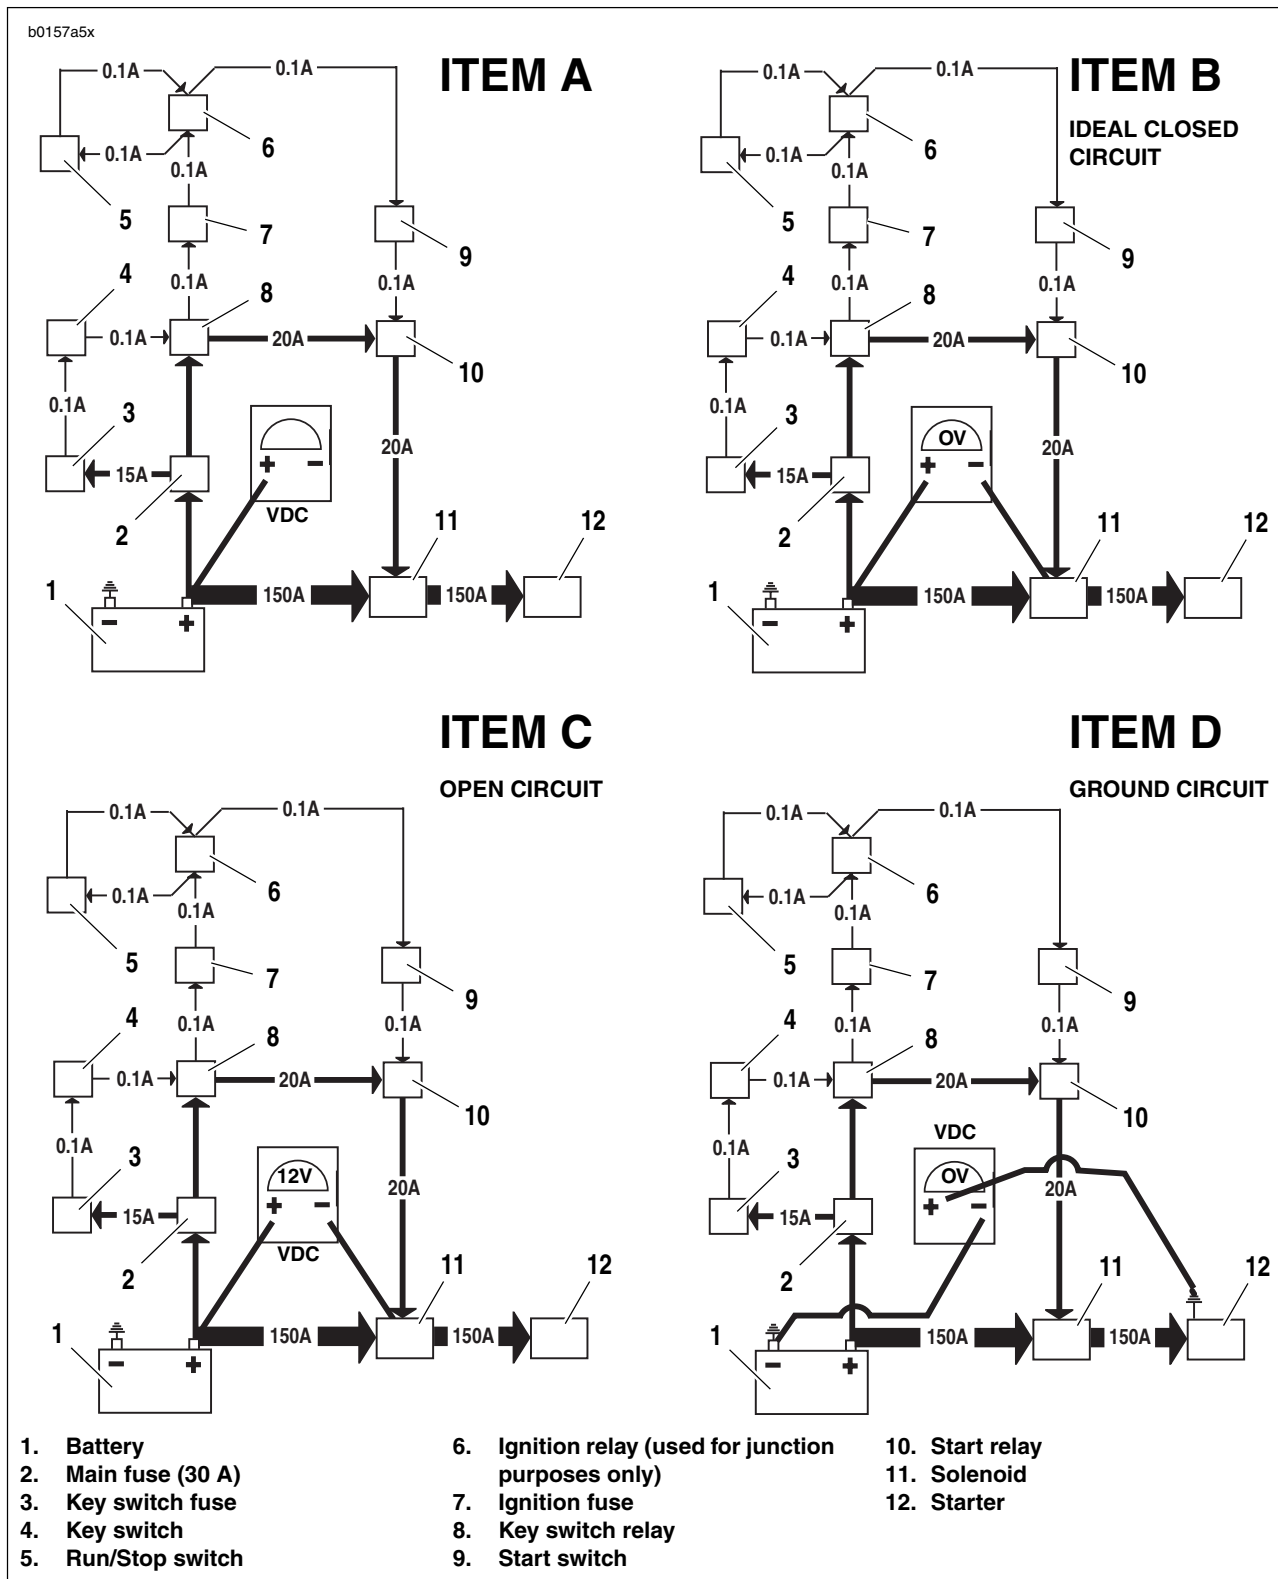

Figure 5-3. Typical Circuitry. Refer to wiring diagrams for more information.
1. See ITEM A in Figure 5-3. Attach your red meter lead to the most positive part of the circuit, which in this case would be the positive post of the battery (1).
2. See ITEM B in Figure 5-3. Attach the black meter lead to the final destination or component in the circuit (solenoid terminal from relay).
5. See ITEM C in Figure 5-3. An open circuit should read 12 volts, displaying all the voltage dropped, and the entire difference in potential displayed on the meter.
8. See ITEM D in Figure 5-3. The negative or ground circuit can be checked as well.